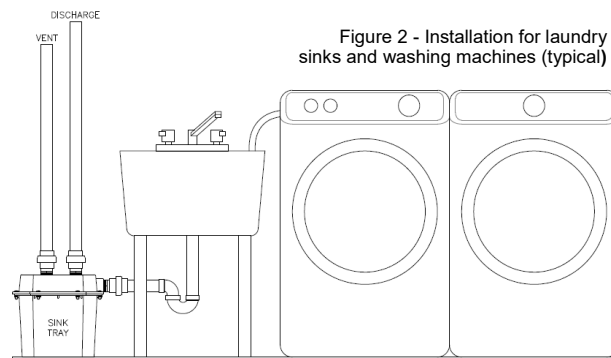

Figure 2 - Installation for laundry sinks and washing machines (typical)
4. Refer to Figures 2, 3 and 4 for typical installations configurations.